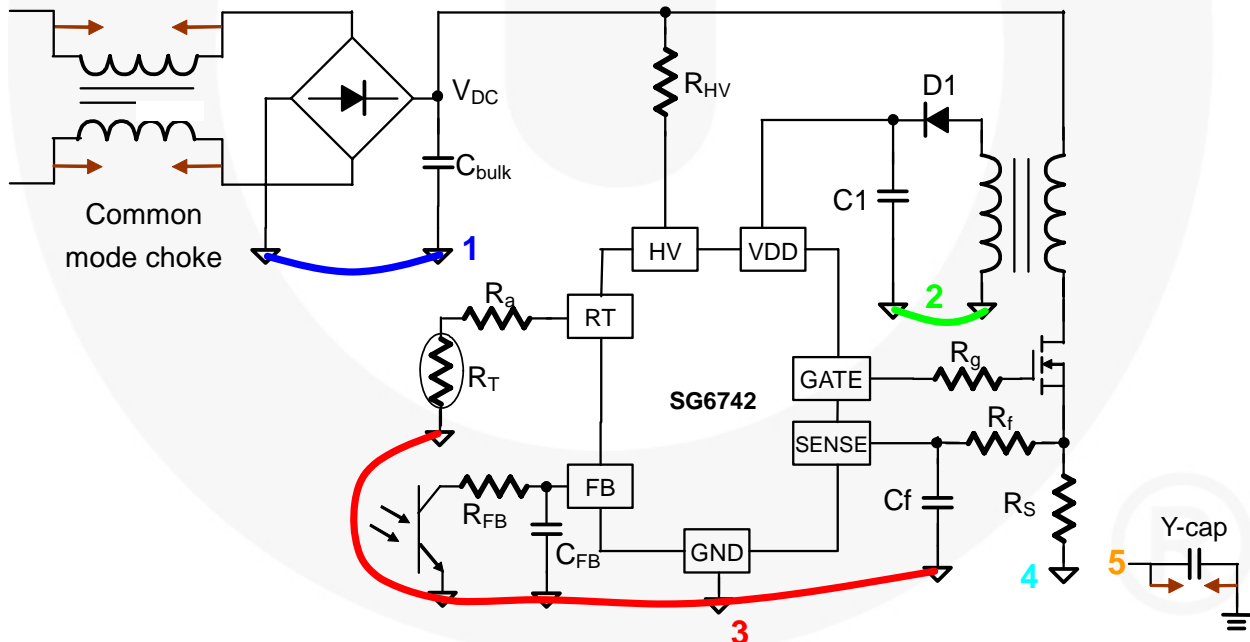

Figure 14. Layout Considerations
- The high-frequency current loop is found in the loop $C_{\text{bulk}} - \text{Transformer} - \text{MOSFET} - R_s - C_{\text{bulk}}$ in Figure 14. The area enclosed by this current loop should be as small as possible. Keep the traces (especially 4→1) short, direct, and wide. High-voltage drain traces related to the MOSFET and RCD snubber should be kept far from control circuits to prevent unnecessary interference. If a heatsink is used for the MOSFET, grounding the heatsink is recommended.
- As indicated by 3 in Figure 14, the control circuits' ground should be connected first, then to other circuitry.
- As indicated by 2 in Figure 14, the area enclosed by the **transformer auxiliary winding, D_1 , and C_1** should also be kept small. Place C_1 close to the SG6742 for good decoupling.